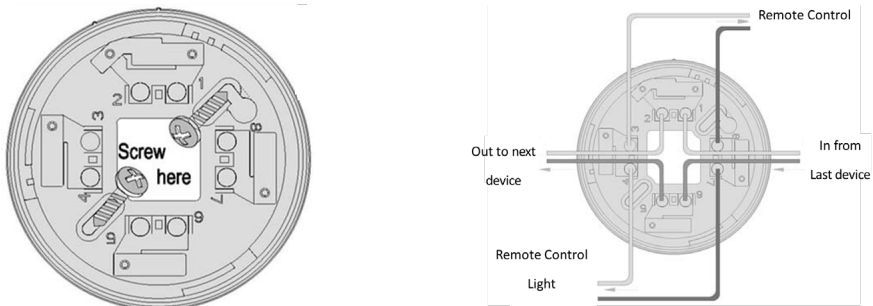

Fig.1 NFA-T01NB Normal base structure and the terminals connection diagram
1. Install the NFA-T01NB Normal base in the position where the Sounder flasher base will be installed. Following the arrow mark for the correct position. Do not over-tighten the screws otherwise the base will twist. Use M4 standard screws. Terminals 1 and 6 are the bus signal inputs for connection to the last device. Terminals 2 and 5 are the bus signal outputs for connection to the next device. Terminals 3&8 or 4&7 are used to connect remote indicators, where terminals 3&4 are positive and terminals 7&8 are negative. NFA-T01NB -type base structure and the terminals connection diagram as shown in Figure 1.